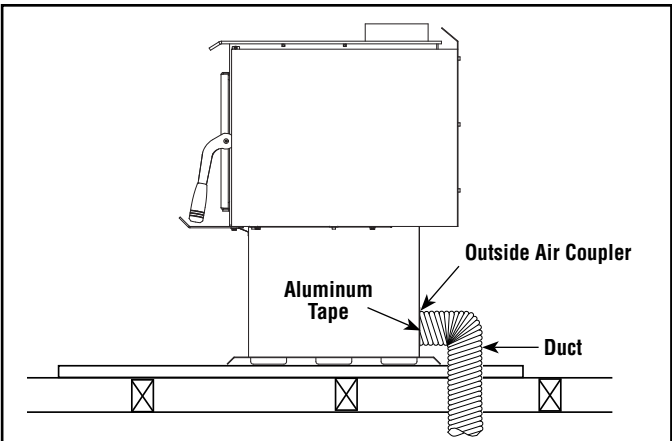

Figure 12A - Outside Air Connection, Through the Floor
- Attach the duct to the coupler on stove (see Figures 12A and 12B). Using the aluminium tape provided, wrap the tape around the joint between the flexible duct and the air inlet.